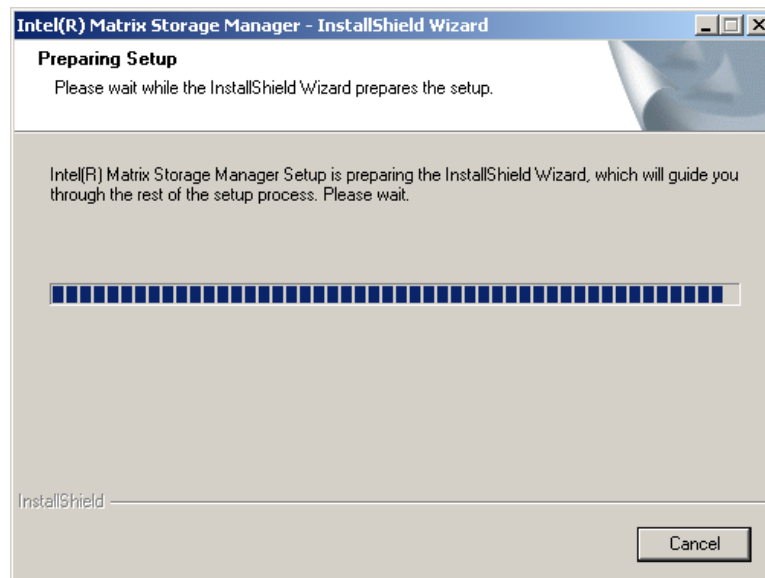

Figure 7-37: InstallShield Wizard Setup Screen
Step 5: Figure 7-37 shows the **InstallShield Wizard** preparing to guide the user through the rest of the process.